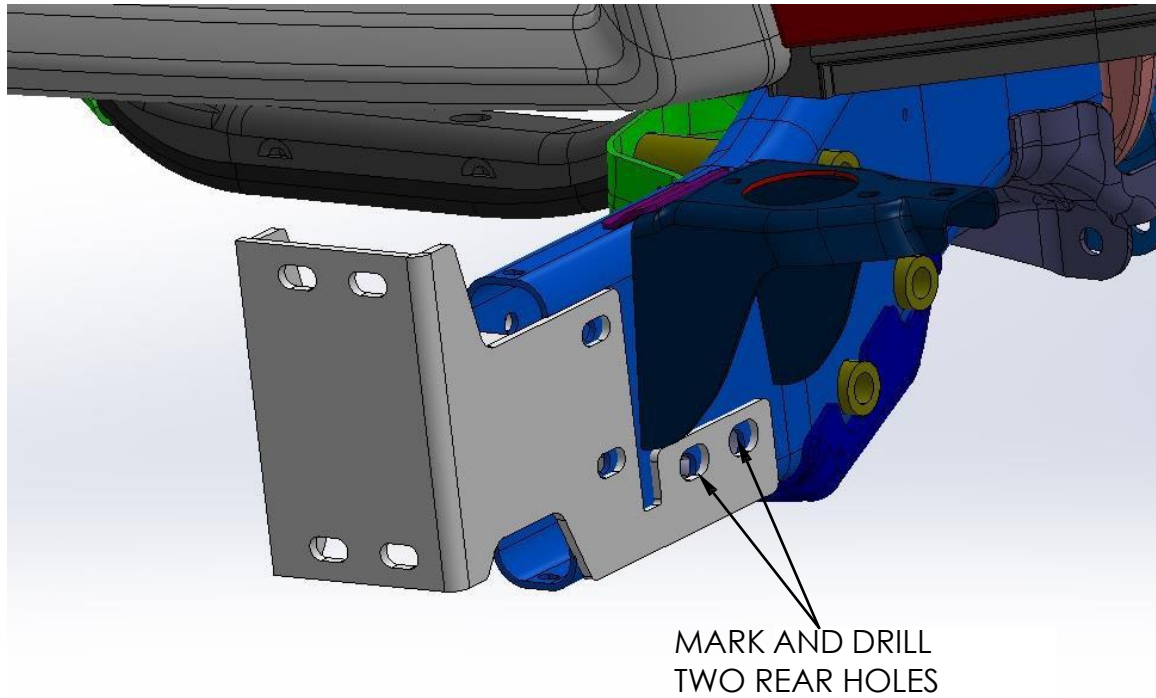

Figure 4 – DRILLING LOCATIONS
9. If the vehicle was not equipped with under run guards, two mounting holes need to be drilled in their place. (See Figure 4)